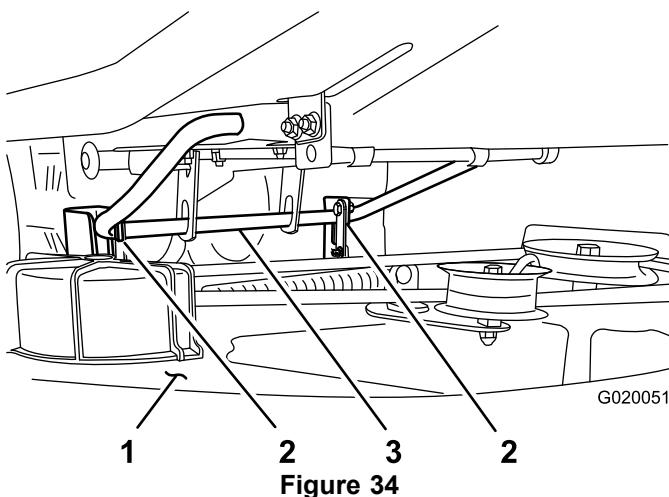
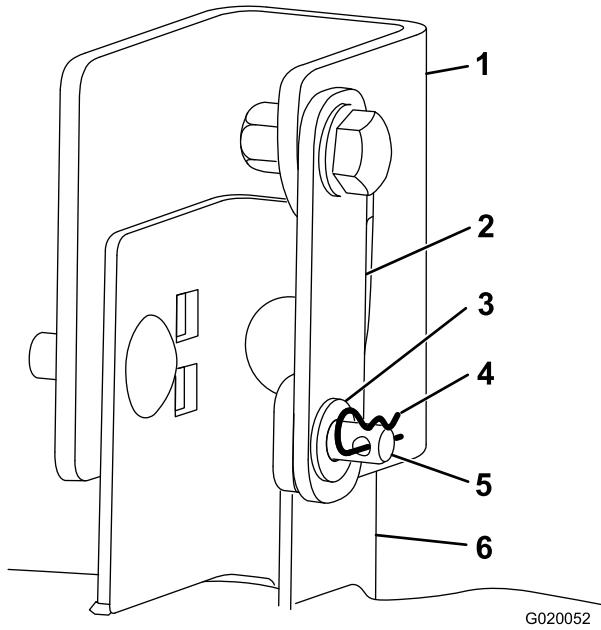

Figure 34
Figure 35
7. Remove the hairpin cotter and washer from the clevis pin in the hanger bracket and deck support bracket on one side of the mower deck. Repeat for the other side (Figure 34 and Figure 35).
8. Lift the rear of the deck slightly to take the pressure off of the cotter pins, and remove them (Figure 34 and Figure 35).
9. Lift the mower deck and the hanger brackets clear of the rear lift rod, and lower the rear of the mower deck carefully to the ground (Figure 34).
7. Lift the rear of the mower deck, and guide the hanger brackets over the rear lift rod (Figure 34).
8. Swivel each deck support bracket so that the hole in the loose end aligns with the hole in the hanger bracket (Figure 35).
9. Install the clevis pin through the brackets on each side; then install the washers on the clevis pins and hairpin cotters through the clevis pins (Figure 35).